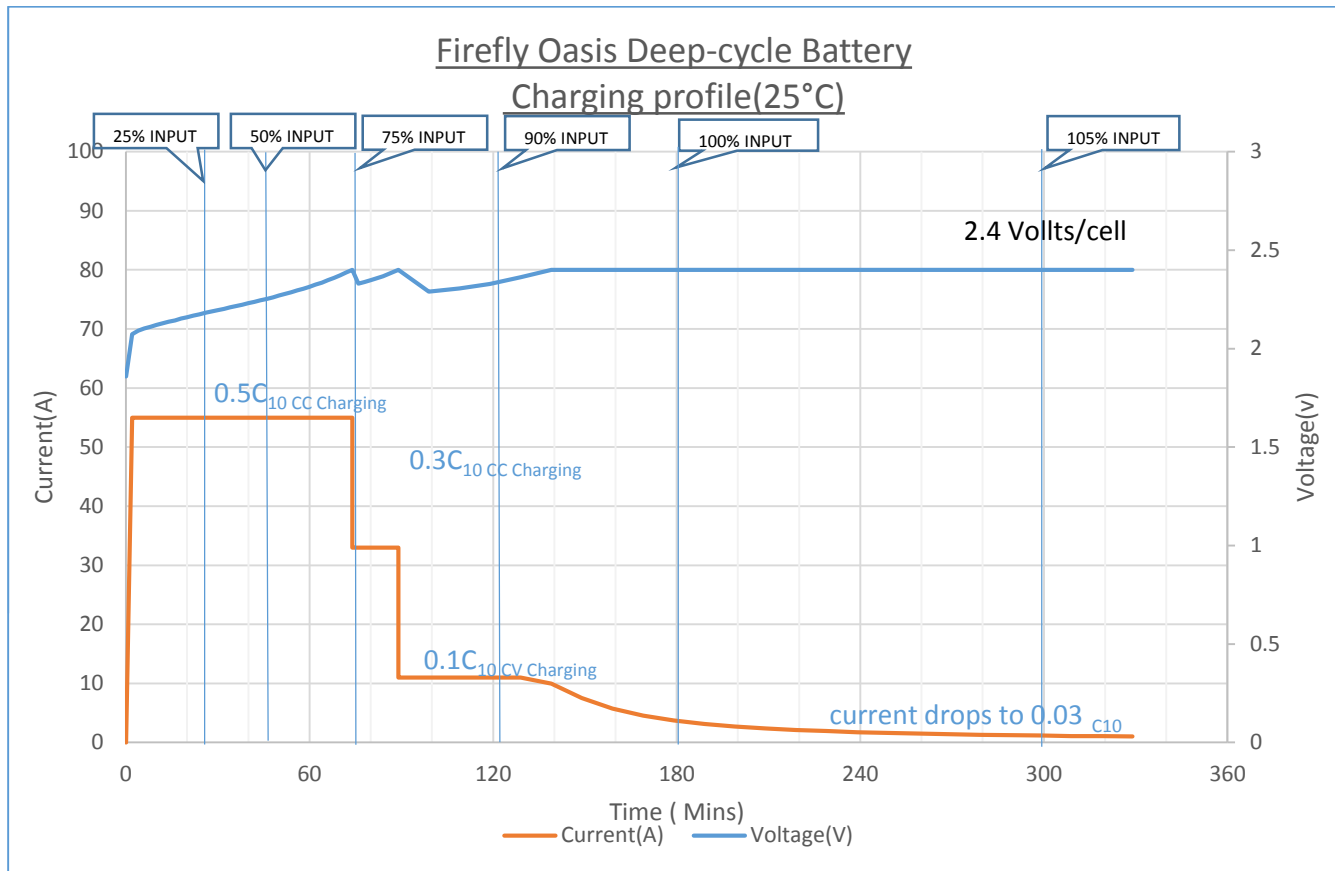

Figure 1 Charging profile shown for Firefly Microcell™ Carbon Foam Battery.
5. Firefly batteries should be charged with a combination of CC-CV mode charging or CV mode. Once charging voltage reaches the voltage limit of 2.4V/cell(@ 25°C), the charging current can be reduced in 3-4 steps to reduce the voltage to 2.25-2.3V/cell so that required Ah is put in without causing excessive heating/water loss. Recommended charging profile is given in Fig.1.